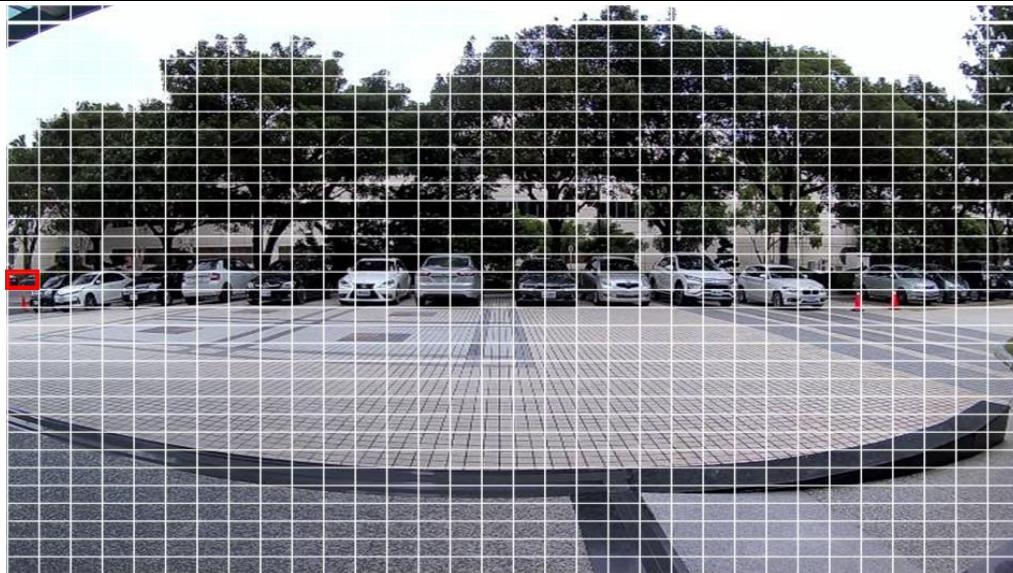

Figure 15-8 Average YRGB value for each block are calculated
The 32x32 YRGB value is calculated by averaging the RGB image generated by from video channel 4. Each value corresponds to the average YRGB value for dividing the image into a 32x32 frame. As shown in Figure 15-8. Calculating motion with 32x32 YRGB data has some advantages, such as (1) saving computation time, (2) taking into account color information, (3) filtering out noise